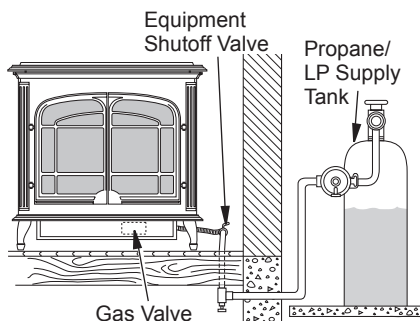
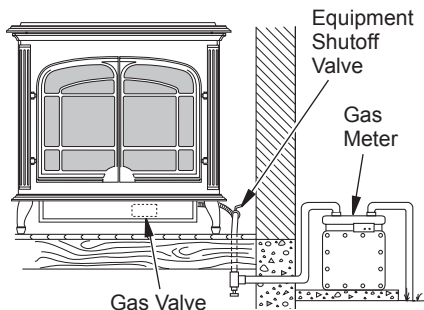

Figure 18 - Checking Gas Joints for Propane/LP Gas Burner System
Figure 19 - Checking Gas Joints for Natural Gas Burner System
3. Check all joints from propane/LP supply tank or gas meter to equipment shutoff valve (see Figure 18 for propane/LP or Figure 19, page 16, for natural gas). Apply noncorrosive leak test solution to all gas joints. Bubbles forming show a leak. Correct all leaks at once.
4. Check all joints from equipment shutoff valve to thermostat gas valve (see Figure 18 for propane/LP or Figure 19 for natural). Apply commercial leak test solution to all gas joints. Bubbles forming show a leak. Correct all leaks at once.